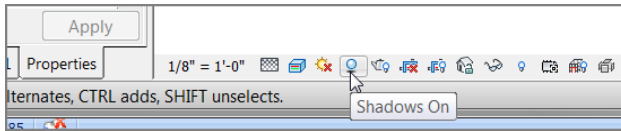

FIGURE 1.41: Shadows create a nice effect, but at the expense of RAM.
3. Again on the View Control bar, select the Shadows On icon and turn on shadows, as shown in Figure 1.41.